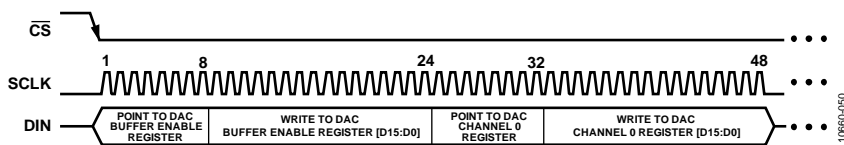

Figure 44. Setting the DAC Output Voltage Code
To set the DAC output voltage codes, the user must write to the DAC channel registers (Address 0x30 to Address 0x33). Figure 44 shows an example of how to set the DAC output voltage codes.
3. The DAC channel register (DAC Channel 0 register in Figure 44) is pointed to with the write bit set.